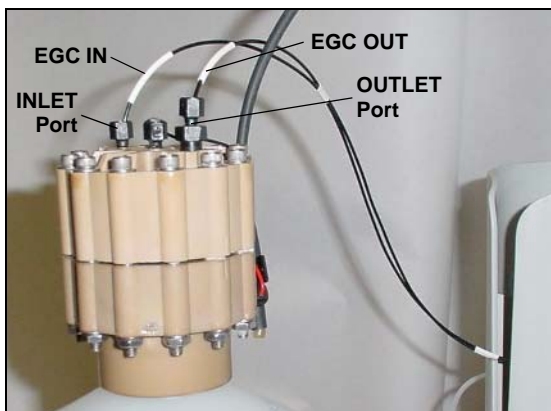

Figure 5-82. Dionex EluGen Cartridge Inlet and Outlet Port Connections
2. Connect the **EGC IN** line to the Dionex EluGen cartridge **INLET** port (see Figure 5-82).